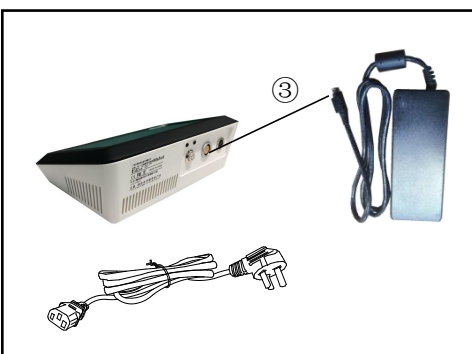

Figure 3
2.2. Connect the power cord(Figure 3)
As shown in Figure 3, find the position ③ of the power adapter on the side of the light source , connect the power cord, and connect the power socket to the adapter.